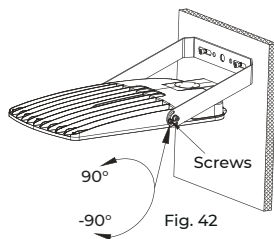

Fig. 42
5. Use a wrench to loose the screw to adjust the angle (range 180°) as shown in Fig. 42.